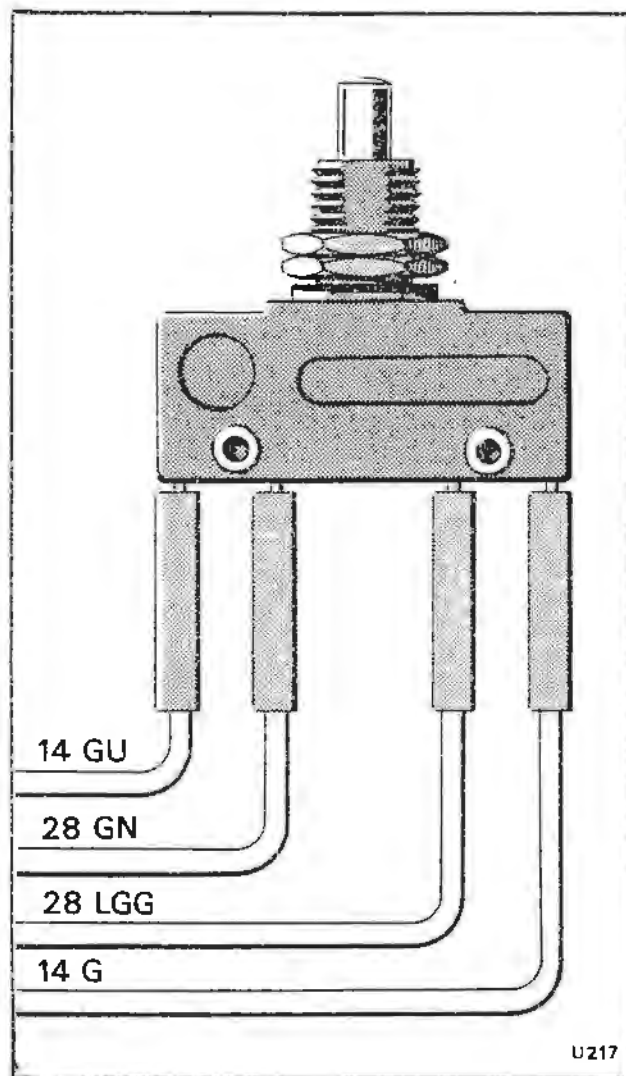

Figure 2. Wiring of stop lamp switch.
2. Make electrical connectors to switch (see Fig. 2).